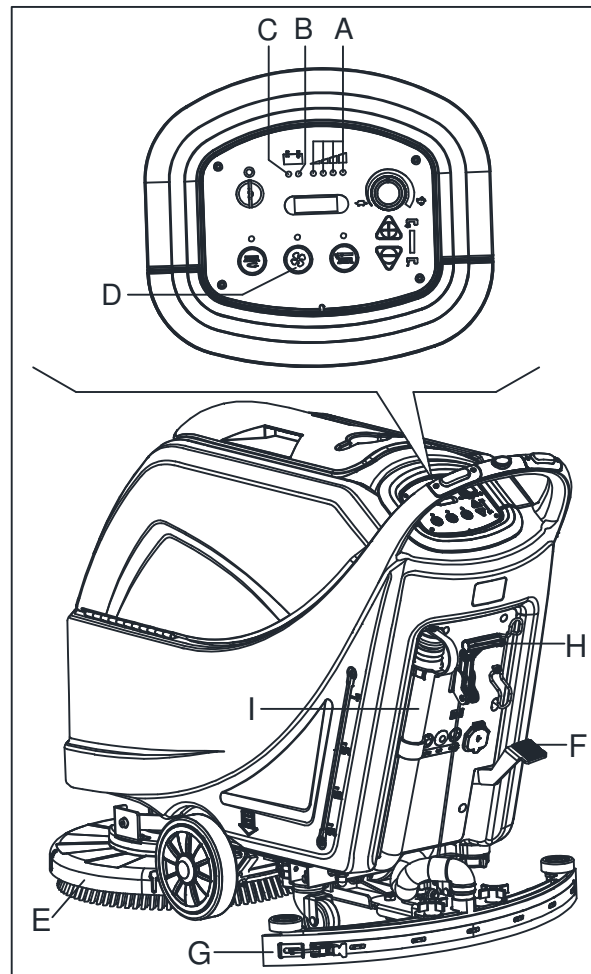

Figure 10
Until the green warning light (A, Figure10) stays on, the batteries allow the machine to work normally. When the green warning light (A) turns off, and the yellow warning light (B) turns on, it is advisable to charge the batteries, because the remaining charge will last for a few minutes (depending on battery characteristics and work to be performed). When the red warning light (C) turns on, batteries are fully discharged. After a few seconds, the brush/pad-holder is automatically tuned off, while the (only for machine with traction) drive system stay on, to finish drying the floor and drive the machine to the appointed recharging area.
**If the vacuum system turns off accidentally (for example, when the float is activated because of a sudden machine movement), to resume the operation: turn off the vacuum system by pressing the switch (D, Figure 10), then open the cover (C, Figure 11) and check that the float inside the grid (A) has gone down to the water level. Then close the cover (C) and turn on the vacuum system by pressing the switch (D, Figure 10).**
2. Lift the brush/pad-holder deck (E, Figure10) by pressing the pedal (F).
3. Lift the squeegee (G) with the lever (H).